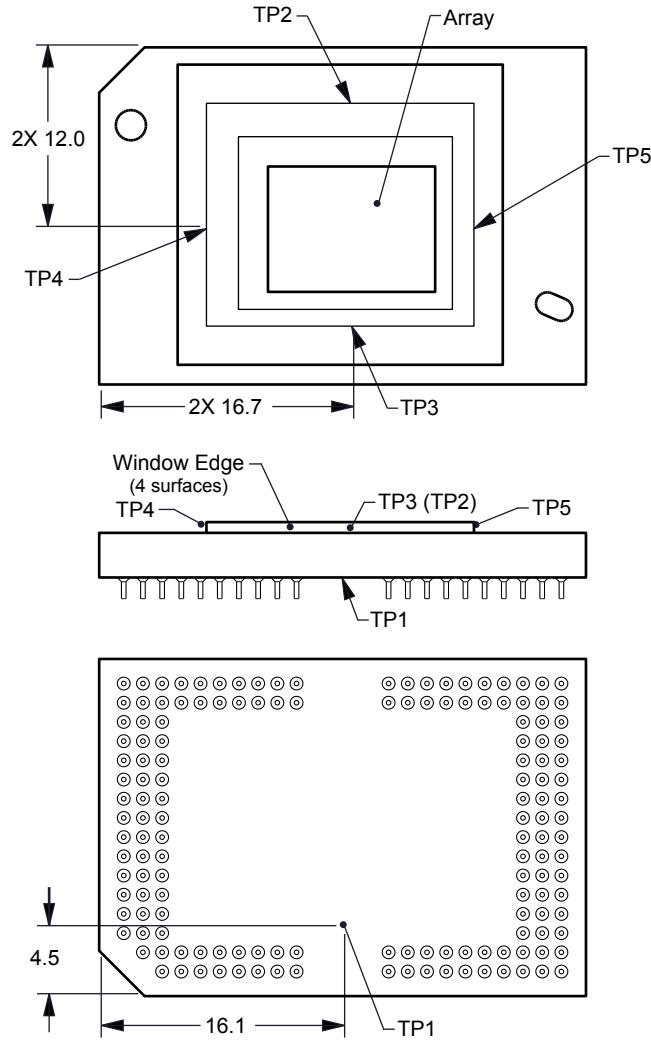

图 7-1. Thermal Test Point Location
Micromirror array temperature cannot be measured directly, therefore it must be computed analytically from measurement points on the outside of the package, the package thermal resistance, the electrical power, and the illumination heat load. The relationship between array temperature and the reference ceramic temperature (thermal test TP1 in 图 7-1) is provided by the following equations:
- $T_{CERAMIC}$ = Measured ceramic temperature ($^{\circ}\text{C}$), TP1 location in 图 7-1